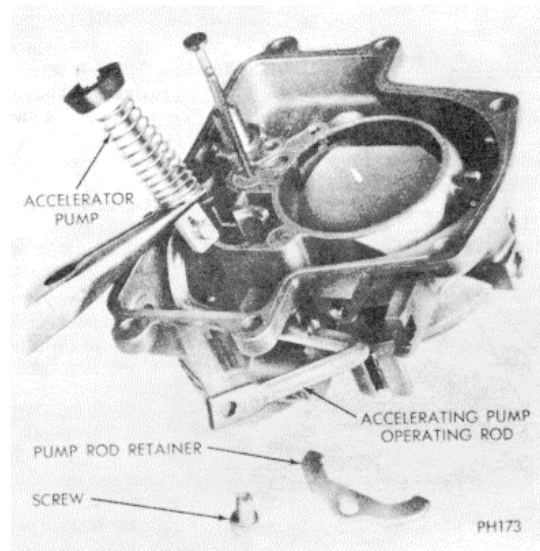

FIG. 10. Remove or Install Accelerator Pump Assembly
5. Rotate the pump operating rod and disconnect the pump drive spring and accelerating pump assembly (Figure 10). Set the pump assembly aside. Do not immerse in cleaner. A new pump cup is in the kit.